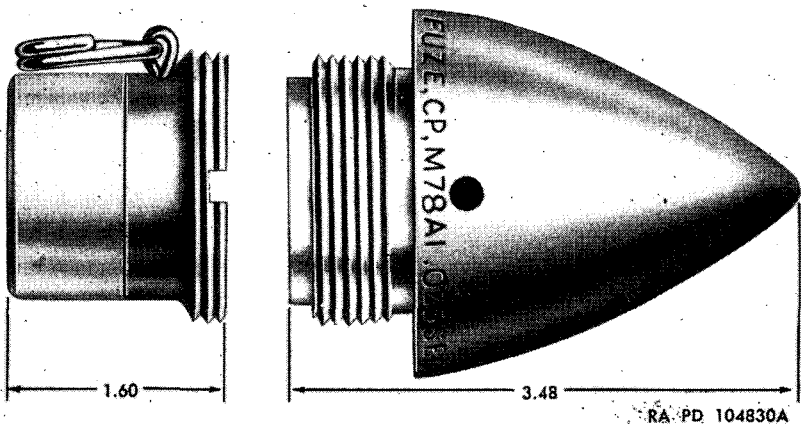

Figure 367. Fuze, CP, M78A1, with booster, M25.
g. FUZE, BD, M68. This fuze, which is assembled in the base of armor-piercing projectiles (APC-T) used in this gun, is known as a base detonating (BD) fuze. It functions with delay action, upon impact. A tracer composition is incorporated in the fuze body and functions independently of the fuze mechanism. Due to its location in the projectile, the fuze is not visible in assembled rounds of APC-T ammunition.
- (1) *Description.* The concrete-piercing fuze M78A1 with booster M25 (fig. 367) are used to convert HE shell M71 into a projectile capable of penetrating or severely damaging concrete or other heavy targets. Both the fuze and booster are shipped as separate components in the same container. The fuze is a solid hardened steel nose plug which contains a detonator and delay plunger assembly in its base. It is shorter and heavier than the standard type impact fuzes.